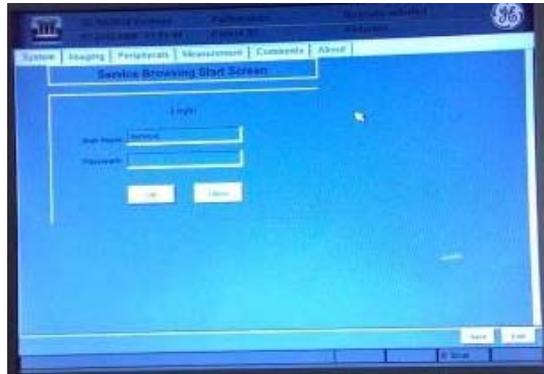

Figure 7-8 Service diagnostics Login Screen
- 3.) **LCD Test:** From the service diagnostics main screen click on LCD Test (Refer Figure 7-8) and the screen (Refer Figure 7-9) will appear.